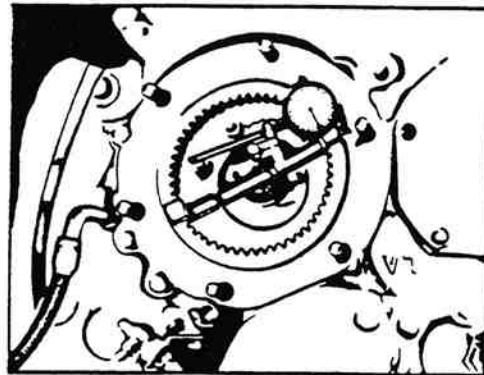

Figure 7-14B. Dial Indicator Installed.
3. Place magnetic base (for dial indicator) on the hex-head capscrew mounting cam gear to camshaft. Install dial indicator on base and set stylus to contact inside edge of figure-8 adapter bore. Set dial indicator to zero. See Fig. 7-14B.